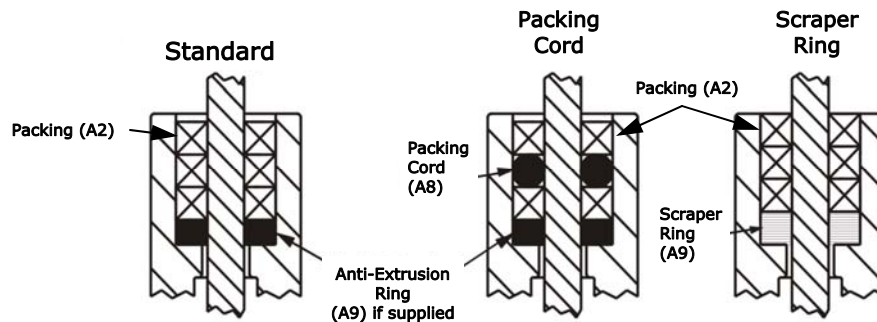

Figure 3—Packing Ring Detail
- a. Note the gate side and body side of the seat as shown in Figure 3.